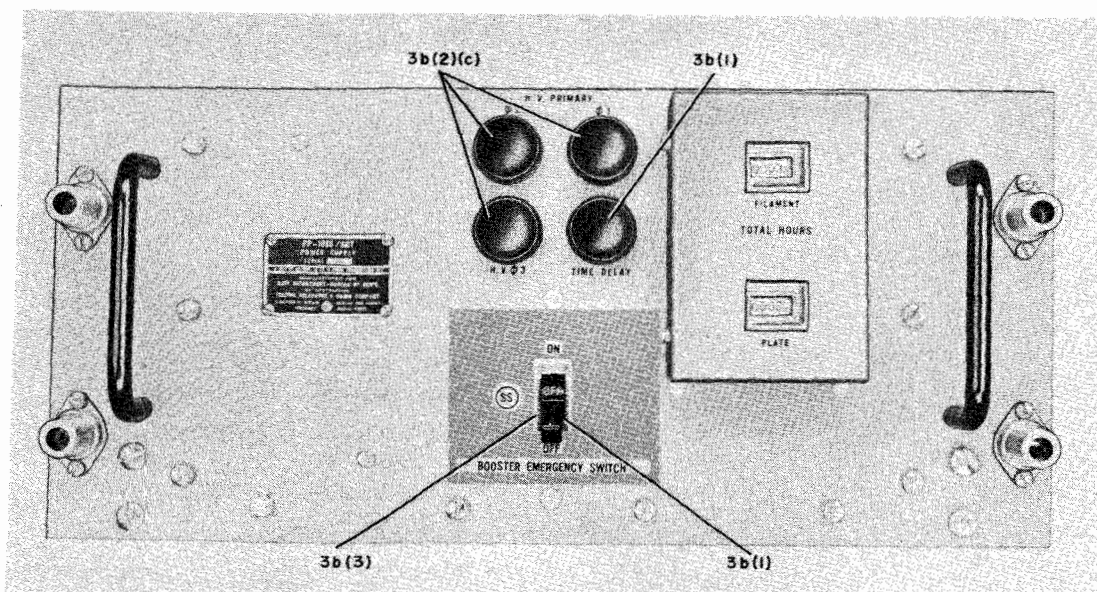

Figure 4-10. Power Supply PP-1096/SRT (High Voltage Power Supply, HVPS), Front Panel Controls and Indicators
*b.* POWER SUPPLY PP-1096/SRT (HIGH VOLTAGE POWER SUPPLY).—The high voltage power supply (HVPS) (figure 4-10) is a unit of the AN/SRT-15 and 16 radio transmitting sets. One control, two elapsed time meters, and four indicator lights are mounted on its front panel.